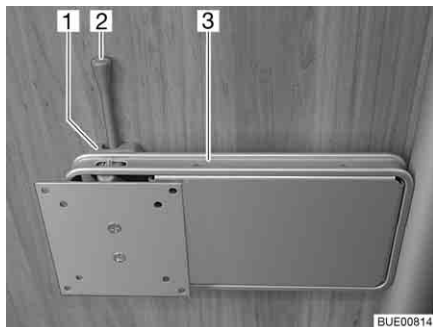

Fig. 72 Holder on the column
- Push the release lever (Fig. 72,2) to the side and turn the holder (Fig. 72,3) with the flat screen to the desired position.
- Turn flat screen back until the holder (Fig. 72,3) engages in the lock (Fig. 72,1).